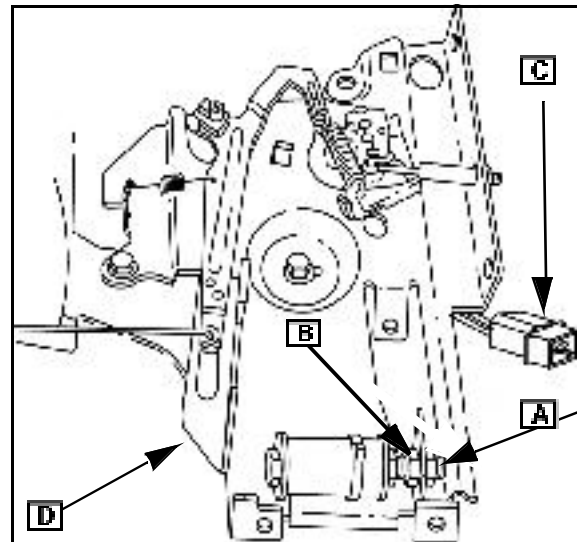

Fig. 43
1. Loosen both adjusting nuts ([A] and [B] Fig. 43). Then, unscrew nut (A) until flush with end of bolt.
3. With the engine running, apply 12VDC to connector ([C] Fig. 43). Extended governor lever ([D] Fig. 43) will be pulled against head of idle bolt.
4. Adjust nut (A) to obtain **2300 RPM**. Remove 12VDC from connector.
5. Hold nut (A) and idle down control in position. Tighten nut ([B] Fig. 43.)